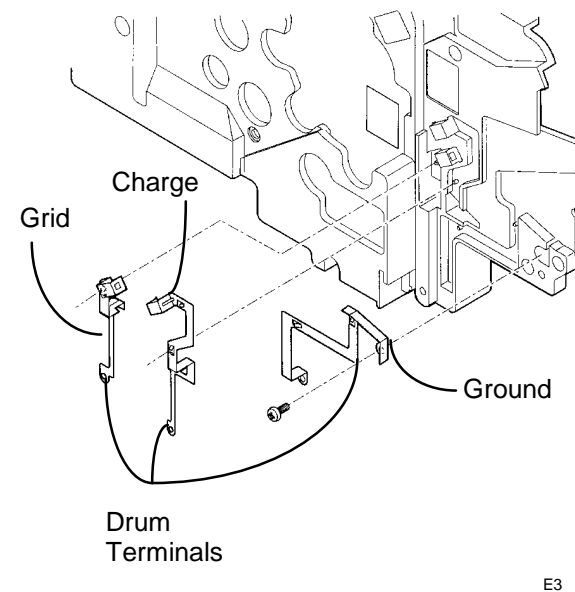

Figure 3. Removing the Drum Terminals
- (Figure 3): Remove the Drum Terminals.